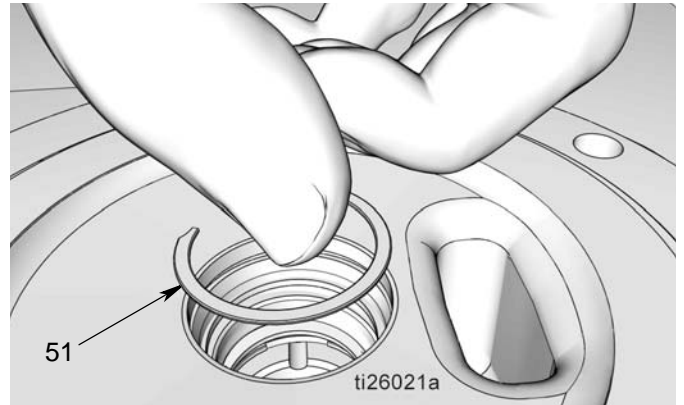

FIG. 35
- f. Install retaining clip (51) (FIG. 35). You should hear a “click” when the retaining clip is correctly seated in the groove.
- g. Install spacer (12) (FIG. 35).